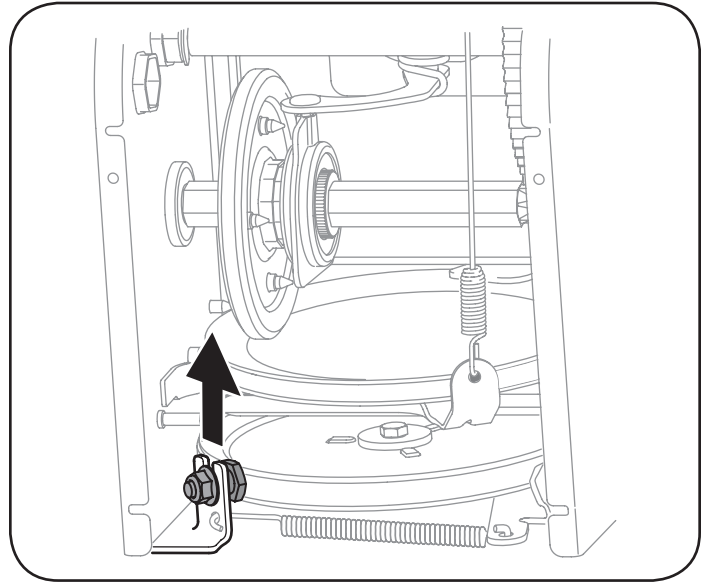

Figure 31
- Loosen and remove the shoulder screw which acts as a belt keeper. Refer to Figure 31.